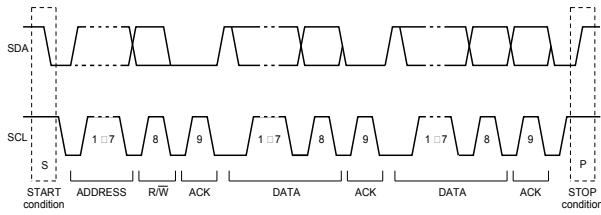

Figure 8: Complete Data Transfer
Figure 8 shows the format for data transfers. After the START condition (S), a slave address is sent. This address is 7 bits long, followed by an eighth data direction bit (R/W). A 0 indicates a transmission (WRITE), and a 1 indicates a request for data (READ). A data transfer is always terminated by a STOP condition (P) generated by the master. However, if a master still wishes to communicate on the bus, it can generate a repeated START condition (Sr) and address another slave without first generating a STOP condition.